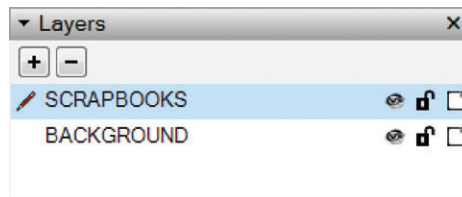

Figure 13.10 Typical scrapbook presentation layers
4. In the Layers Inspector, delete the TITLE BLOCK layer because you don't need it in a scrapbook collection. Rename the DRAWINGS layer to **BACKGROUND**. Rename the ANNOTATIONS layer to **SCRAPBOOKS** and leave it as the current layer (Figure 13.10).